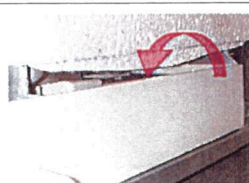

Figure 8
12. Install the EPS insulation panel by hooking the bottom edge into the drain pan. (Figure 8)
13. Attach the side access panel with (11) screws.